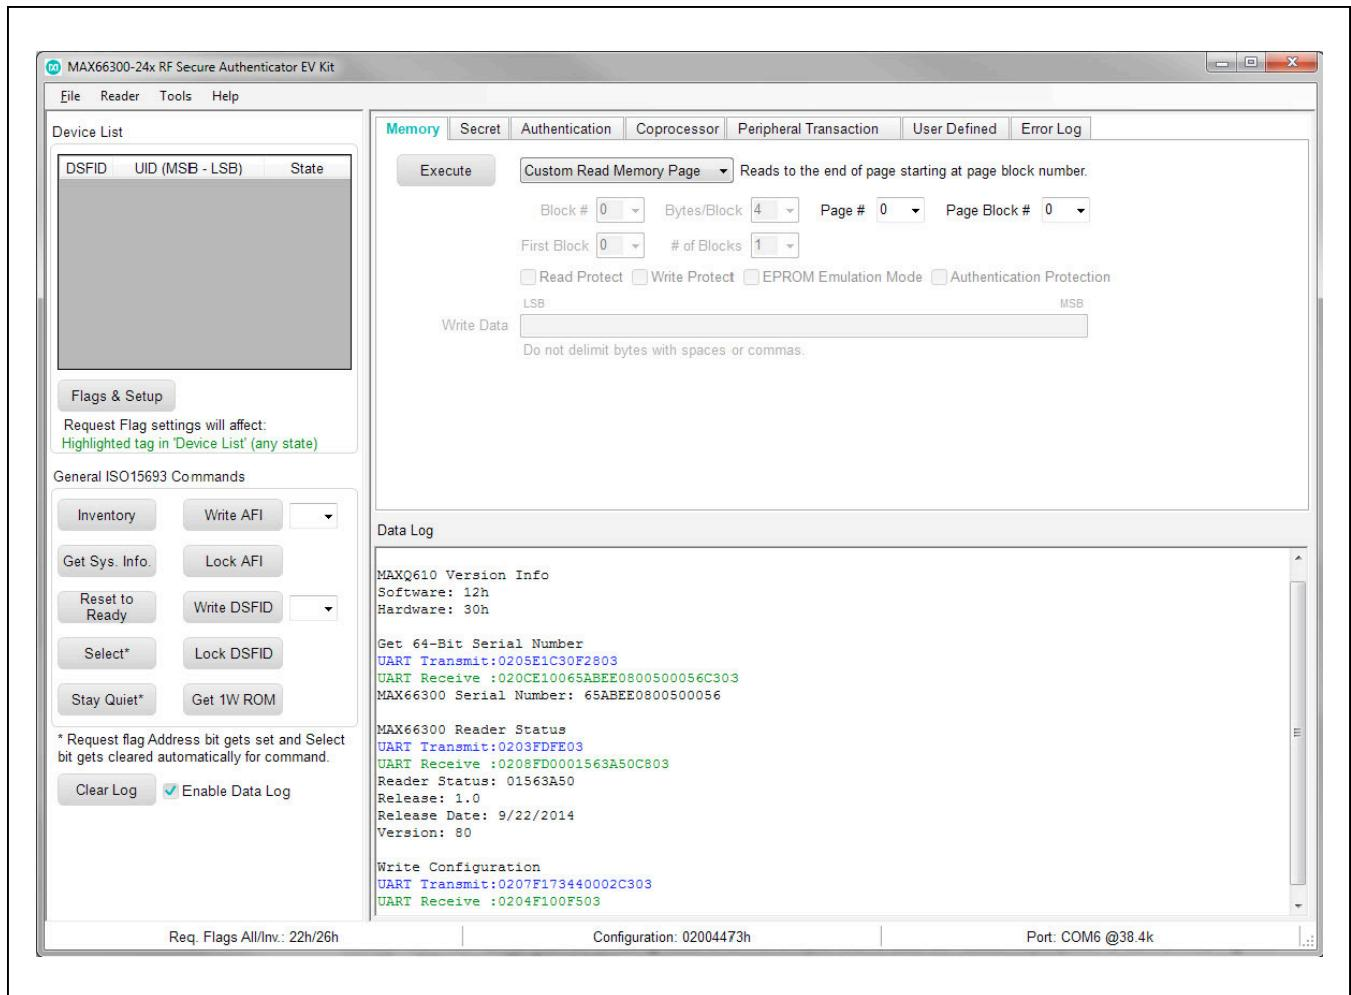

Figure 4. MAX66300-24x EV Kit GUI
- 8) The evaluation program GUI appears as shown in Figure 4.
**Quick Start** section with the GUI open as in Figure 4, click on rectangular red objects and confirm red circular objects for the following steps: